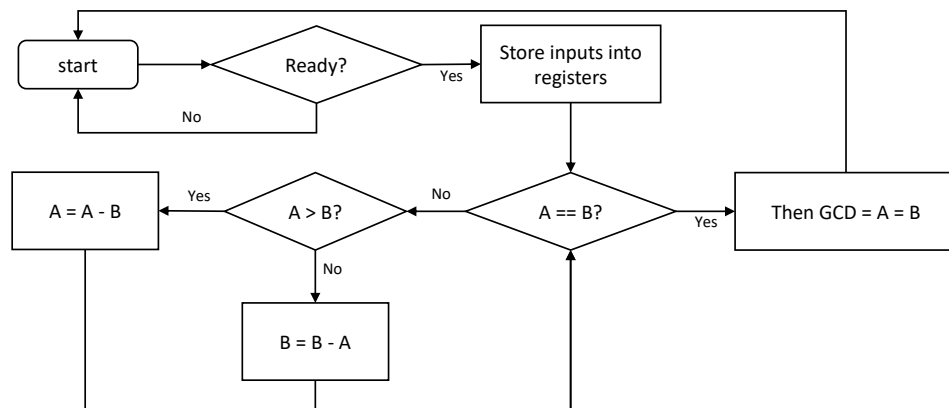

Figure 2: A flowchart showing the GCD algorithm, including steps to load the data.
Before you can begin computing the GCD, however, you must load values into the datapath's registers. The general flow chart is shown in Figure 2. A "Ready" signal indicates to the control unit that inputs `A` and `B` should be stored into the registers. Careful, the registers for `A` and `B` are in the datapath (they are not state registers).
1. Draw a state transition diagram, using Figures 2 and 3 as a guide. See if you can come up with useful English names for each state.